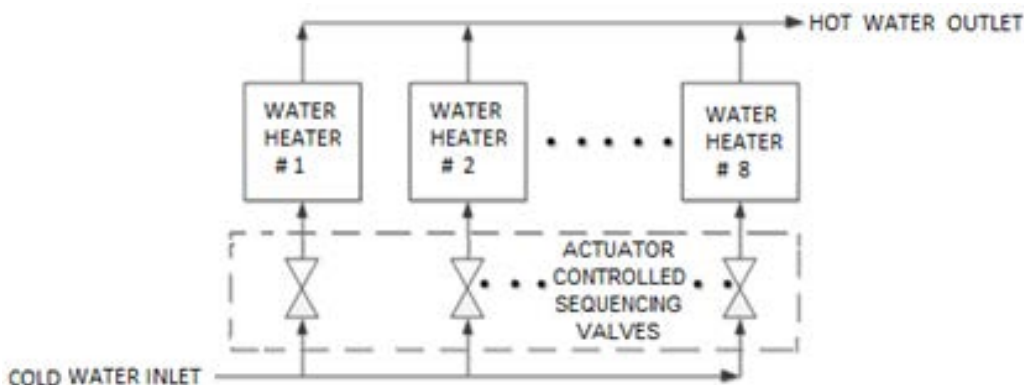

Figure 8-1. Simplified Block Diagram - Water Heater Management (WHM)
The C-More Water Heater Management System (WHM) is designed to ensure that all water heaters in the system operate at maximum efficiency. This is accomplished by monitoring the Air/Fuel Valve position (VP) of all water heaters that have their sequencing valves open. Units with open sequencing valves are called enabled units. Units with closed sequencing valves are called disabled units. Units which are unable to function, due to a fault or user intervention, are called offline units. When there is minimal or no demand for hot water, the sequencing valve for one unit will be open. As system load increases, the WHM will open the sequencing valves on additional heaters. A simplified block diagram of multiple water heaters connected to a WHM is shown in Figure 8-1.